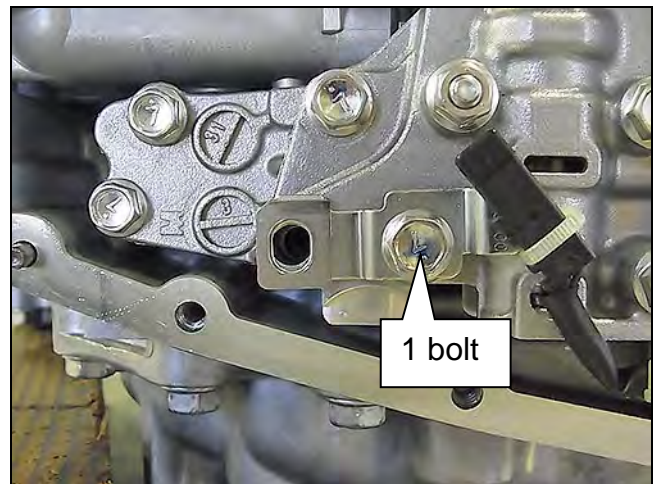

Figure 9A
5. Install the CVT fluid temperature sensor bracket to the valve body with one (1) bolt (Figure 9A).